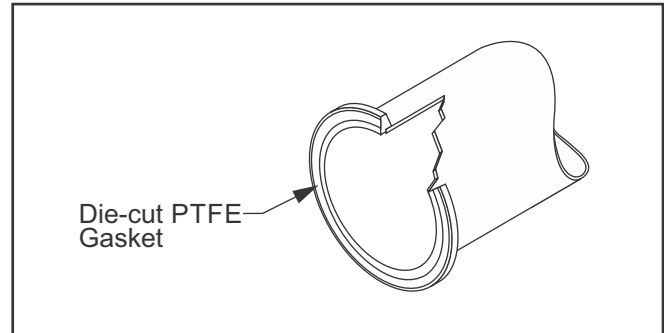

Fig. 17: Apply gasket for 2" & 3" PSP-EZ™ duct
1. Apply Gasket: Always use a new gasket. Peel the backing from the gasket and adhere it approximately centered to one of the flanges. Adhere the gasket to the flange that is already in the system if possible. Smooth the gasket with a finger to seat the adhesive fully after final positioning. Only apply one gasket per joint. (Fig. 17)